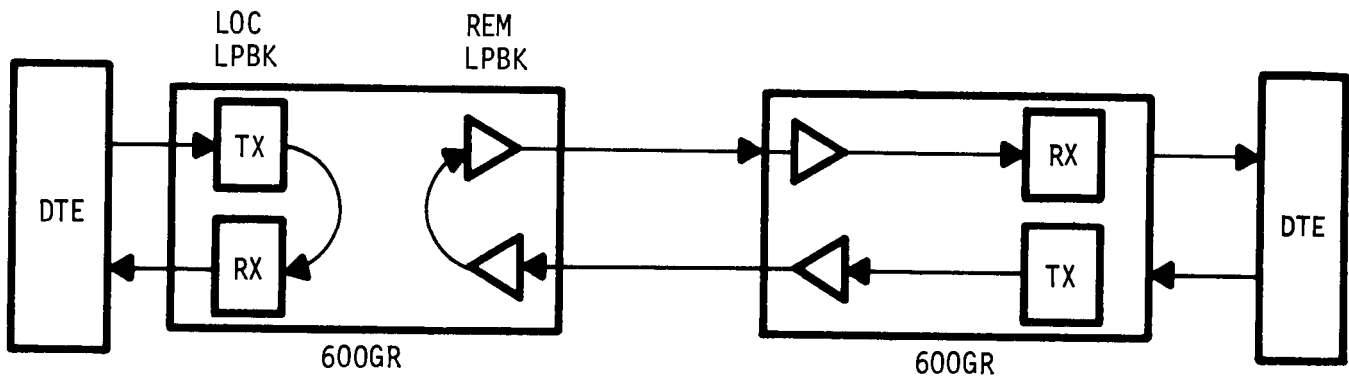

Figure 2-2. Loopback Testing
Transmitter and receiver operation can be partially checked by means of the two position NORM/LPBK switch on the front panel. For a self-test check the NORM/LPBK switch is placed in the LPBK position. Transmit data from the local terminal goes to the converter's transmitter (TX) as shown in figure 2-2, and is looped back to the receiver (RX). At the same time, if data is being transmitted from the distant end, data from the remote terminal goes to the local converter's receive amplifier and is looped directly back to the converter's transmit amplifier, testing both converters and the transmission lines.